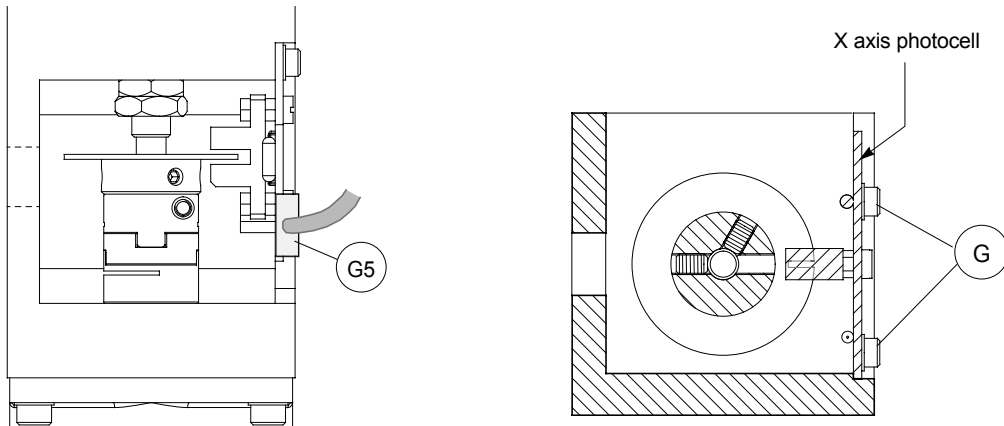

Fig. 61
- 3) unscrew the 2 (G) screws that secure the photocell card and remove.
- 4) disconnect the (G5) photocell cable (fig. 61).
- 6) replace the photocell in position securing it with the (G) screws (fig. 61).